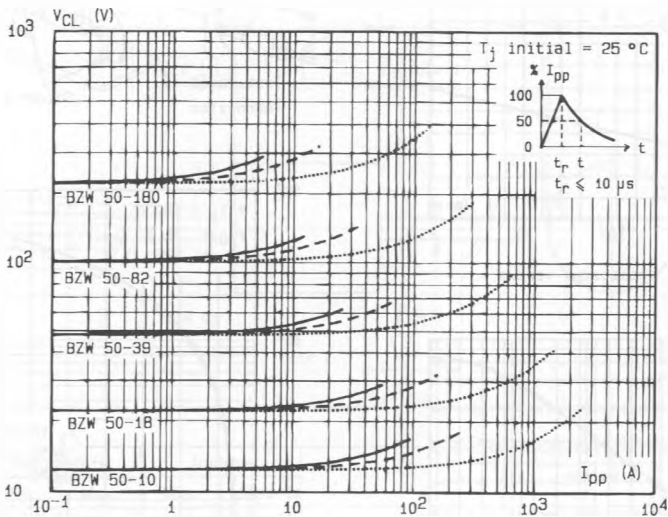

Fig.2 - Clamping voltage versus peak pulse current.
Note : The curves of the figure 2 are specified for a junction temperature of 25 °C before surge. The given results may be extrapolated for other junction temperatures by using the following formula :  $\Delta V (BR) = \alpha T (V(BR)) \times [T_j - 25] \times V(BR)$